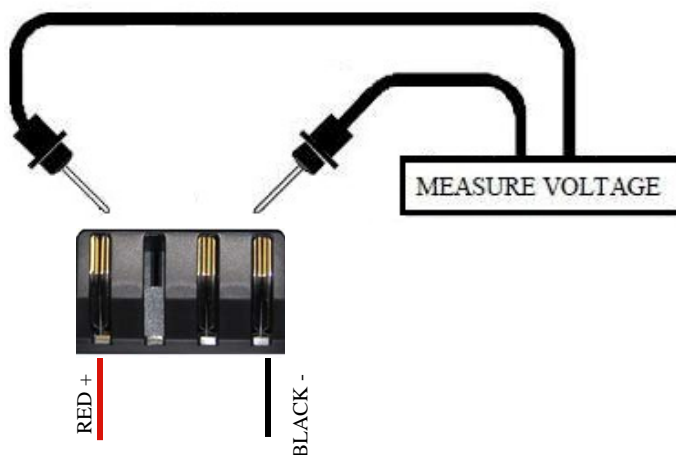

Figure 16. Connector 4
3. Measure voltage across the two outside terminals on connector (4). **See figure 16.** Does the voltage increase?